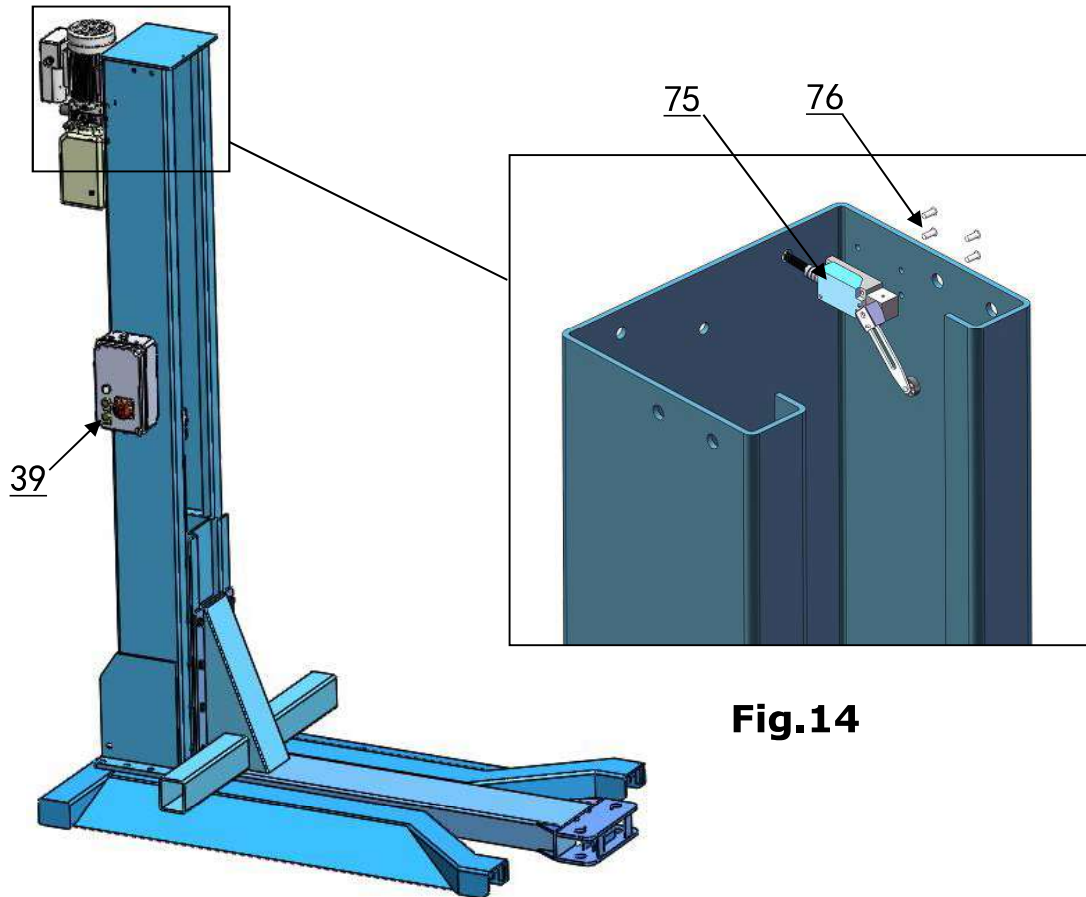

Fig.14
F. Install control box and limit switch. (See Fig.14)